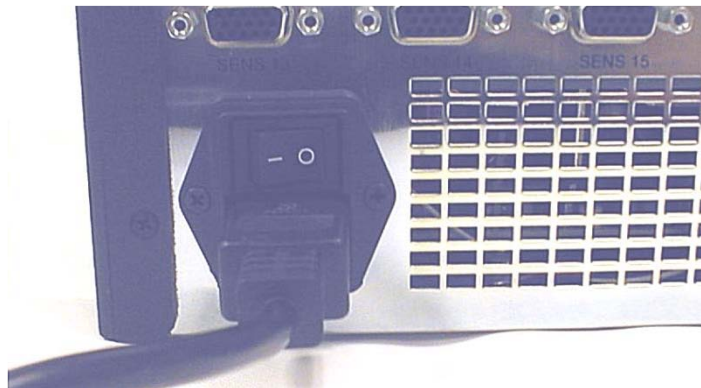

Figure 1-6 Power Connector
7. Identify the power entry module with the ON/OFF rocker switch on the rear panel. Ensure that this switch is in the OFF position (logic "0", RIGHT) before inserting the AC power cord and applying 110/220 VAC. See Figure 1-6.